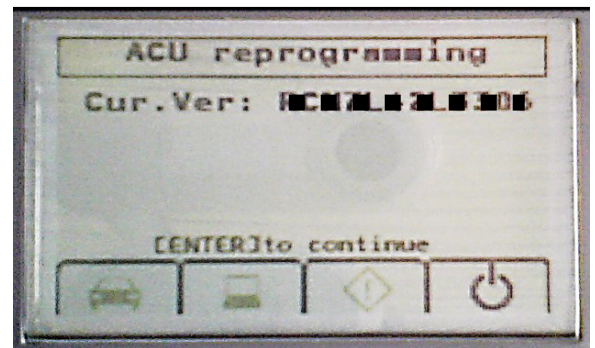

Figure A6
- The screen in Figure A6 (next page) will display when system call is complete.
- If system call does not complete and the screen in Figure A6 does not display, the vehicle may not apply to this campaign.